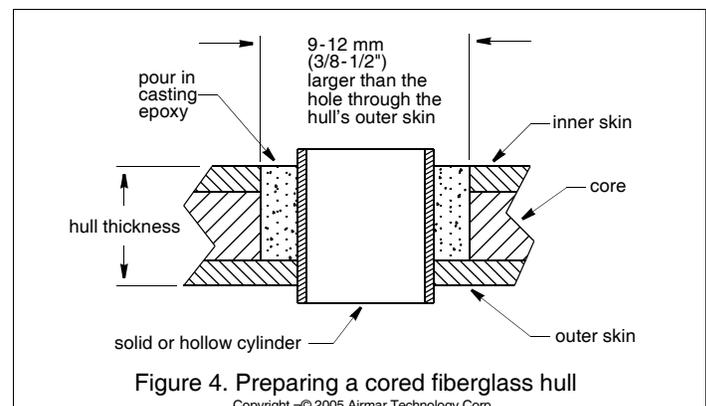

Figure 4. Preparing a cored fiberglass hull
2. Using a 51 mm or 2" hole saw, cut the hole from outside the hull through the *outer skin only* (see Figure 4).